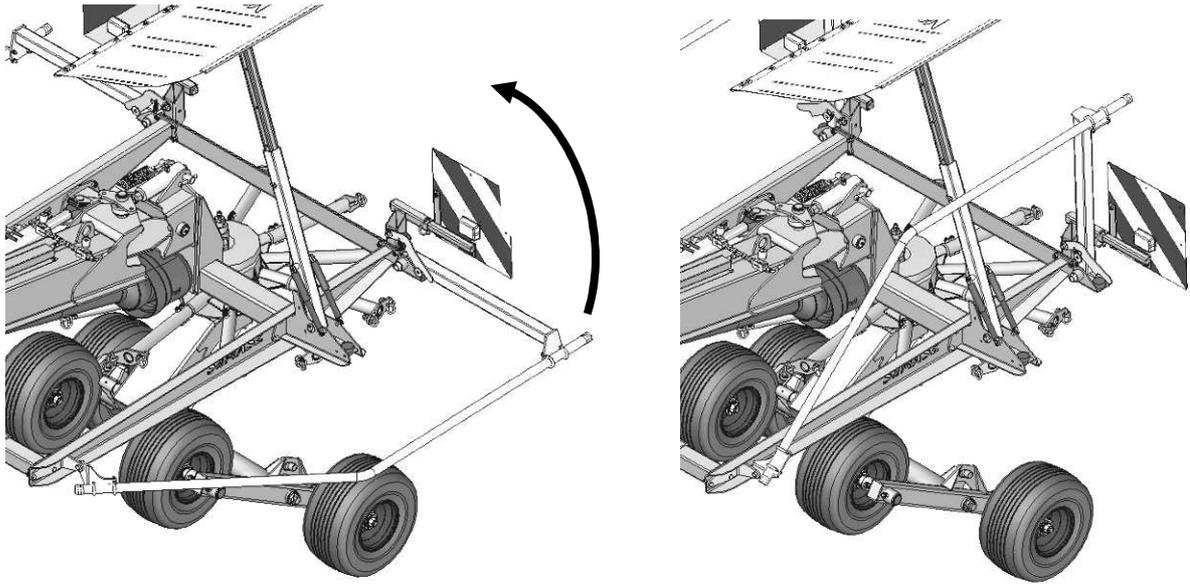

Fig. 21. Transport position of front rotor's guard
- Lift until rear rotor's guard is locked (Fig. 21).
- ❑ Unlock and lower safety guards of the rear rotor by performing actions as in Fig. 21,